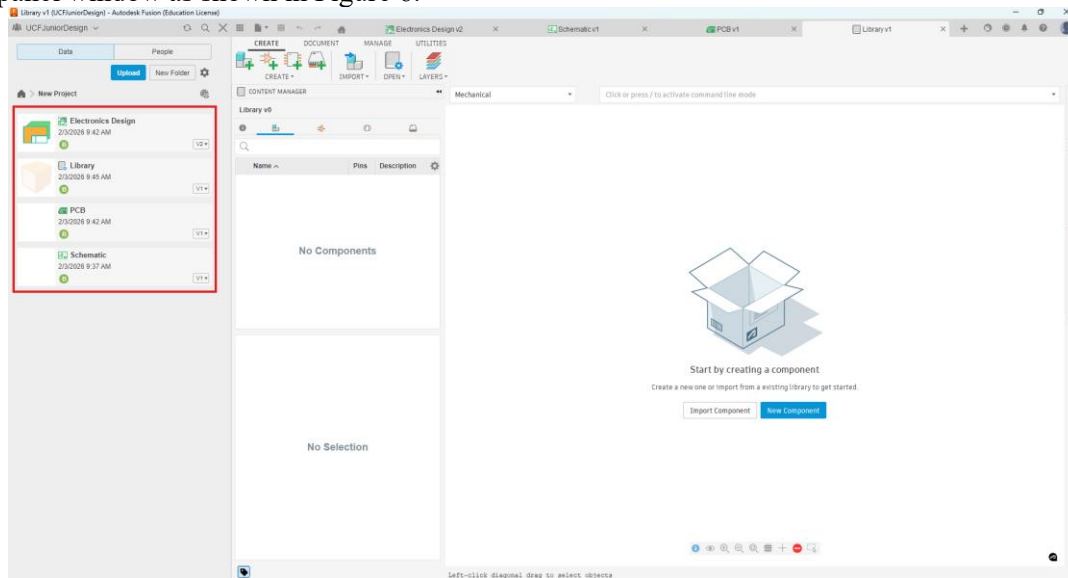

Figure 6: Fusion's Data Panel showing the project's schematic and board.
3.6: Save the library with a new name. You should now see your schematic, board, and library files in the control panel window as shown in Figure 6.